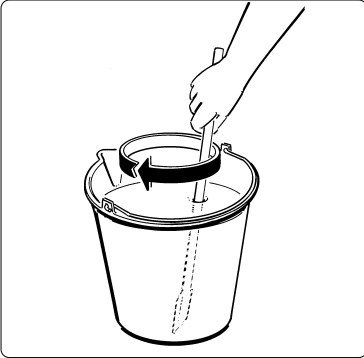

Fig. 3
- a) Dilute and mix the product in a separate container, according to the manufacturer's instructions (see fig. 3).